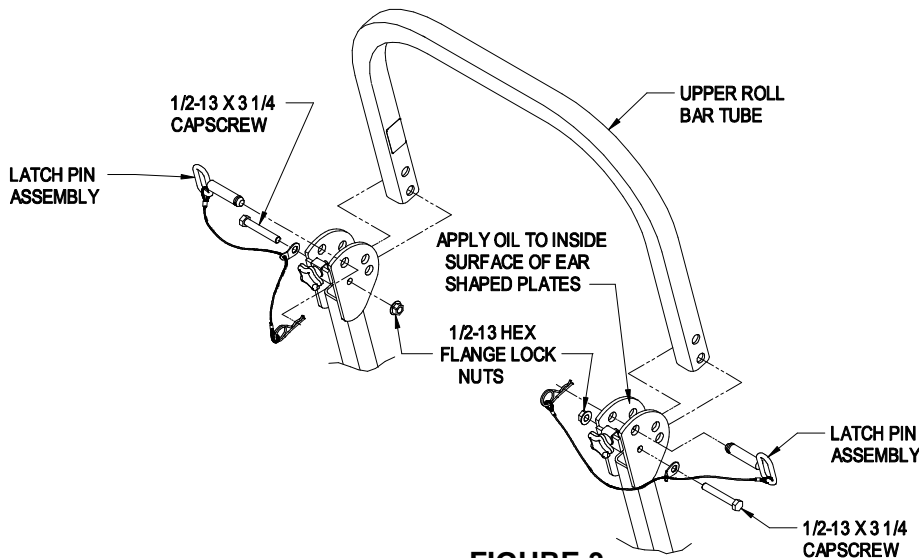

FIGURE 3
- 3.2.5 Install the upper u-shaped section of the roll bar. (Reference Figure 3 for alignment and installation instructions below):